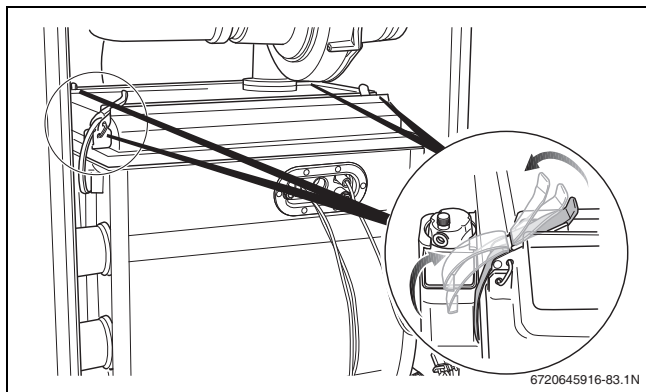

Fig. 85 Opening the retaining clips
- Carefully open the 4 snap retaining clips on the burner cover (→ fig. 85). The retaining clips may be under tension.